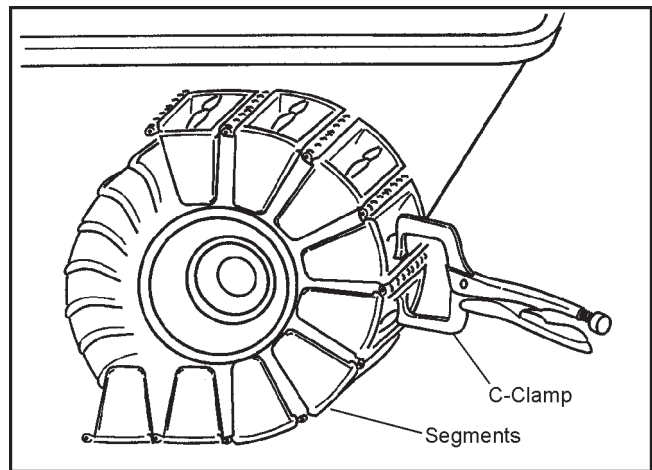

Figure 11-9. Track Assembly.
- Join the two ends of the track and secure them in place with C-clamps as shown in Fig. 11-9, so that the 1/4" holes are lined up.
1. Use C-clamp to take tension off of track pin, as in Fig.11-9.